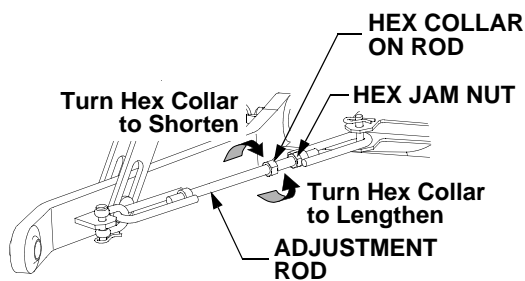

Figure 28
- The length of the hitch chains limit the side-to-side movement of the hitch lower links. To adjust the length of the hitch chains, loosen the jam nut and turn the hex collar on the adjustment rod as shown in Figure 28. Tighten the jam nut after adjusting.